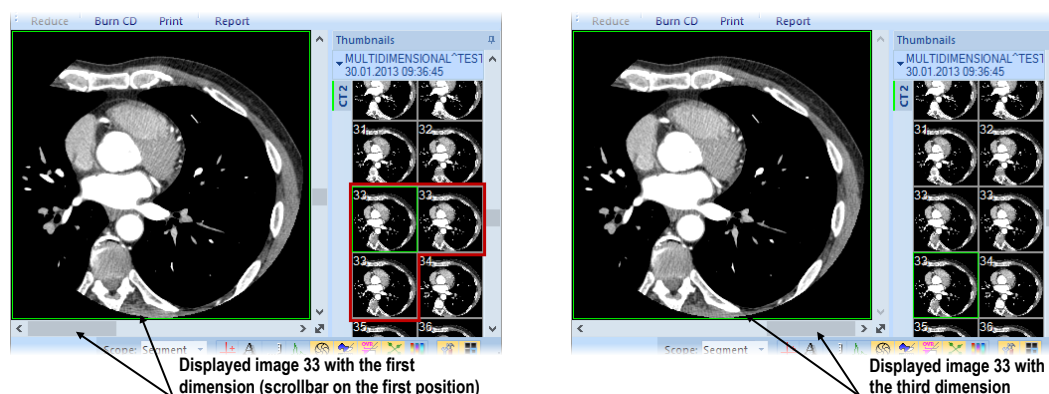

Figure 135 – Displayed image with the first and the third dimension in the current view
- Move to the image with the next/previous dimension that has the same position in the series as the image in the current view, by scrolling with the mouse wheel while pressing down the ALT key or using the horizontal scrollbar (see Figure 135).